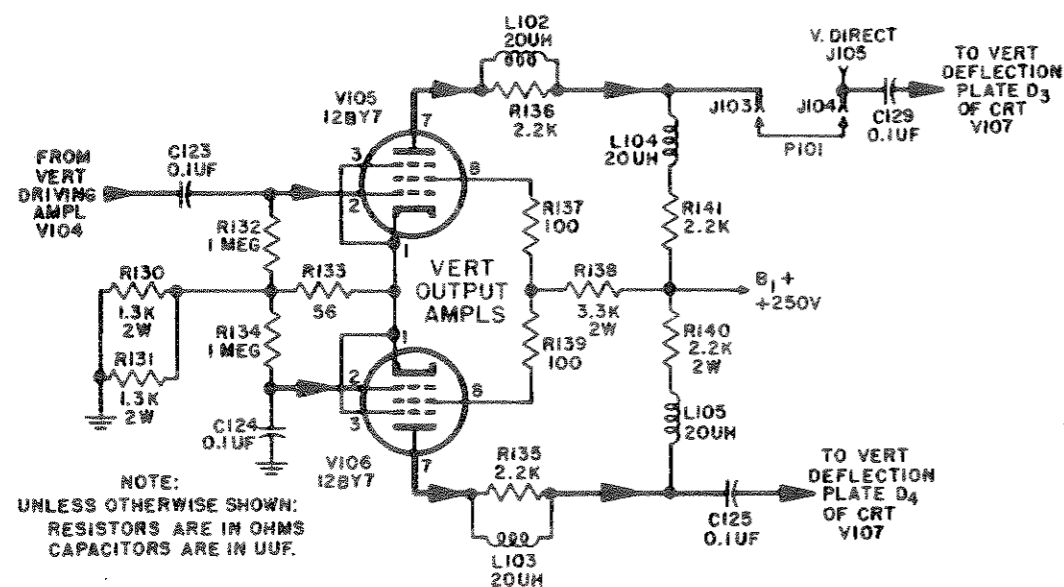

Figure 2-6. Vertical Output Amplifier, Simplified Schematic Diagram.
(4) VERTICAL OUTPUT AMPLIFIER (See figure 2-6) – This stage includes two type 12BY7 pentodes V105, V106 connected in a cathode coupled amplifier circuit that converts the signal output from the single-ended Vertical Driving Amplifier, V104 to a push-pull signal output for the vertical deflection plates of the CRT, V107. The signal output from V104 coupled to the grid